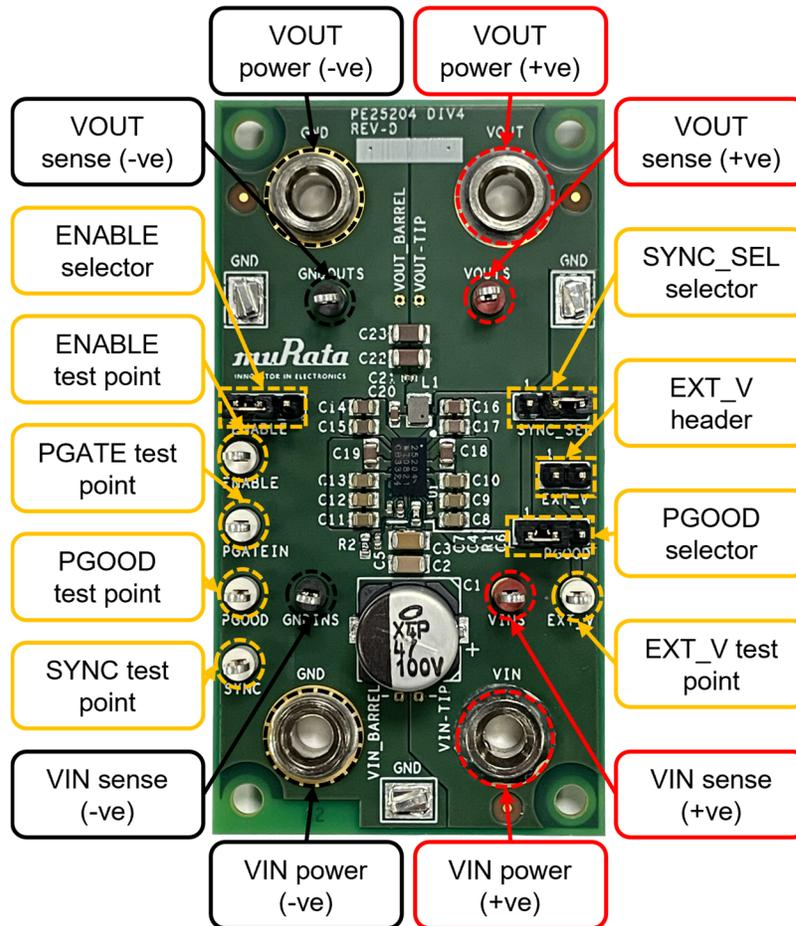

Figure 1. PE25204 Evaluation Board Assembly
The PE25204 EVK includes the following terminals, as shown in Figure 1:
The PE25204 EVK has a supply (2-pin) header EXT\_V, as shown in Figure 1. The EXT\_V header supplies an external pull-up power good (PGOOD) voltage between 3.3V and 5V to the EVK. Table 3 lists the EXT\_V header functions and how to properly connect its pins to supply an external pull-up PGOOD voltage.
2. Verify that the PGOOD selector, as indicated in Figure 1, is fitted with a jumper configured to short pin 2 and pin 3.
Before you apply power to the EVK, verify that the ENABLE, SYNC\_SEL, and PGOOD selectors shown in Figure 1 are properly fitted with the jumpers for your preferred configuration. Table 4 lists the configuration headers, the associated jumper configurations, and the recommended jumper configurations for a quick evaluation. Before you change any jumper configurations, always remove the input power.
To ensure accurate measurement of the input and output voltages, use the PE25204 EVK sense (+ve) and sense (-ve) test points for the VIN and VOUT voltages, as shown in Figure 1.